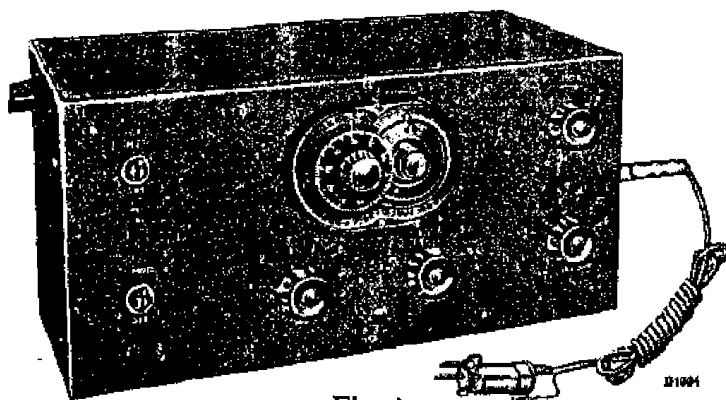
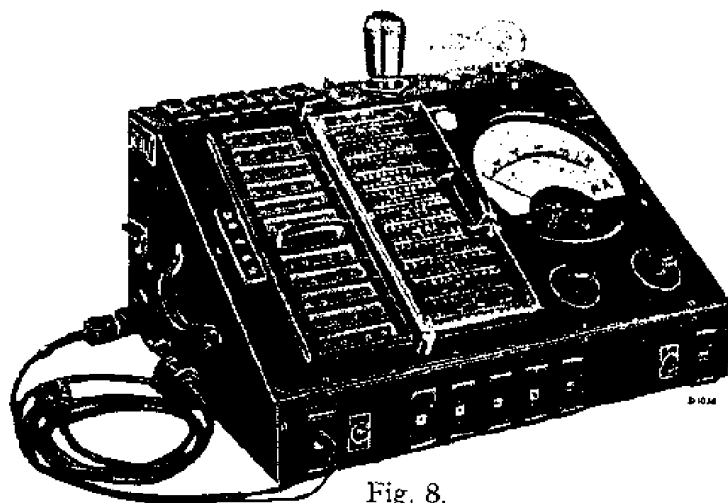

Fig. 4
Fig. 8.
1. A service oscillator similar to Philips Type GM.2880, All-mains Oscillator. Fig. 4.
Fault finding will be considerably facilitated by the use of efficient testing apparatus. Attention is drawn to Philips Universal Measuring Testboard shown at Fig. 8, which enables both A.C. and D.C. voltages and currents, capacities and resistances to be measured over a large number of ranges. Particulars and prices of the testboard and service oscillator, Fig. 4, can be obtained from the Service Dept., Mitcham Junction, Surrey.